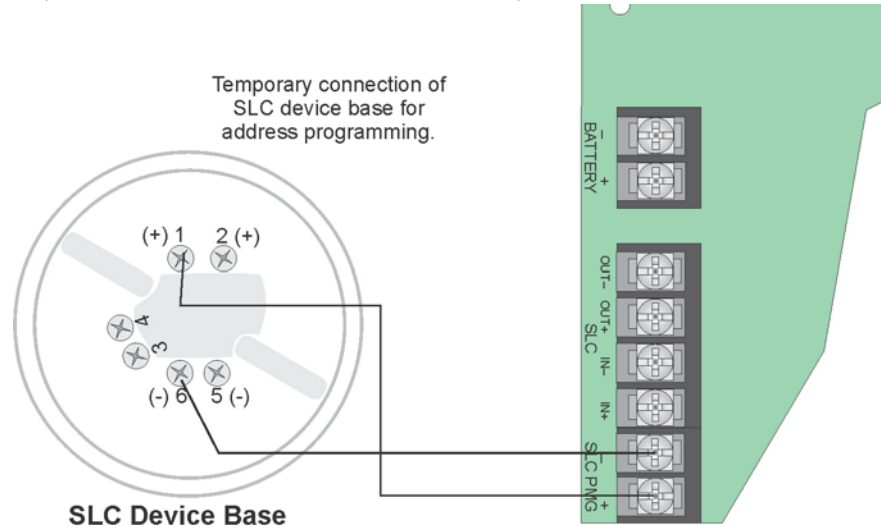

**Figure 7-6 Heat or Smoke Detector Connection to the FACP (Class B)**
1. Wire device bases as shown in Figure 7-6.